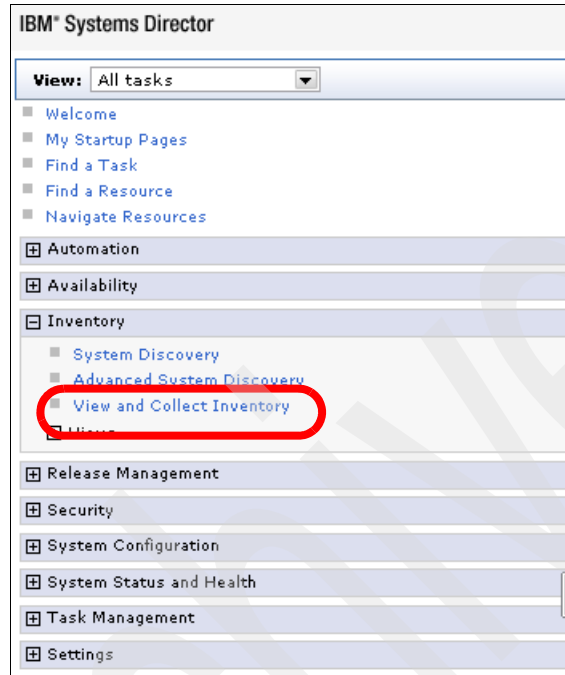

Figure 3-8 View and Collect Inventory
2. In the IBM systems Director Web interface, select **Inventory** → **View and Collect Inventory** as shown in Figure 3-8.